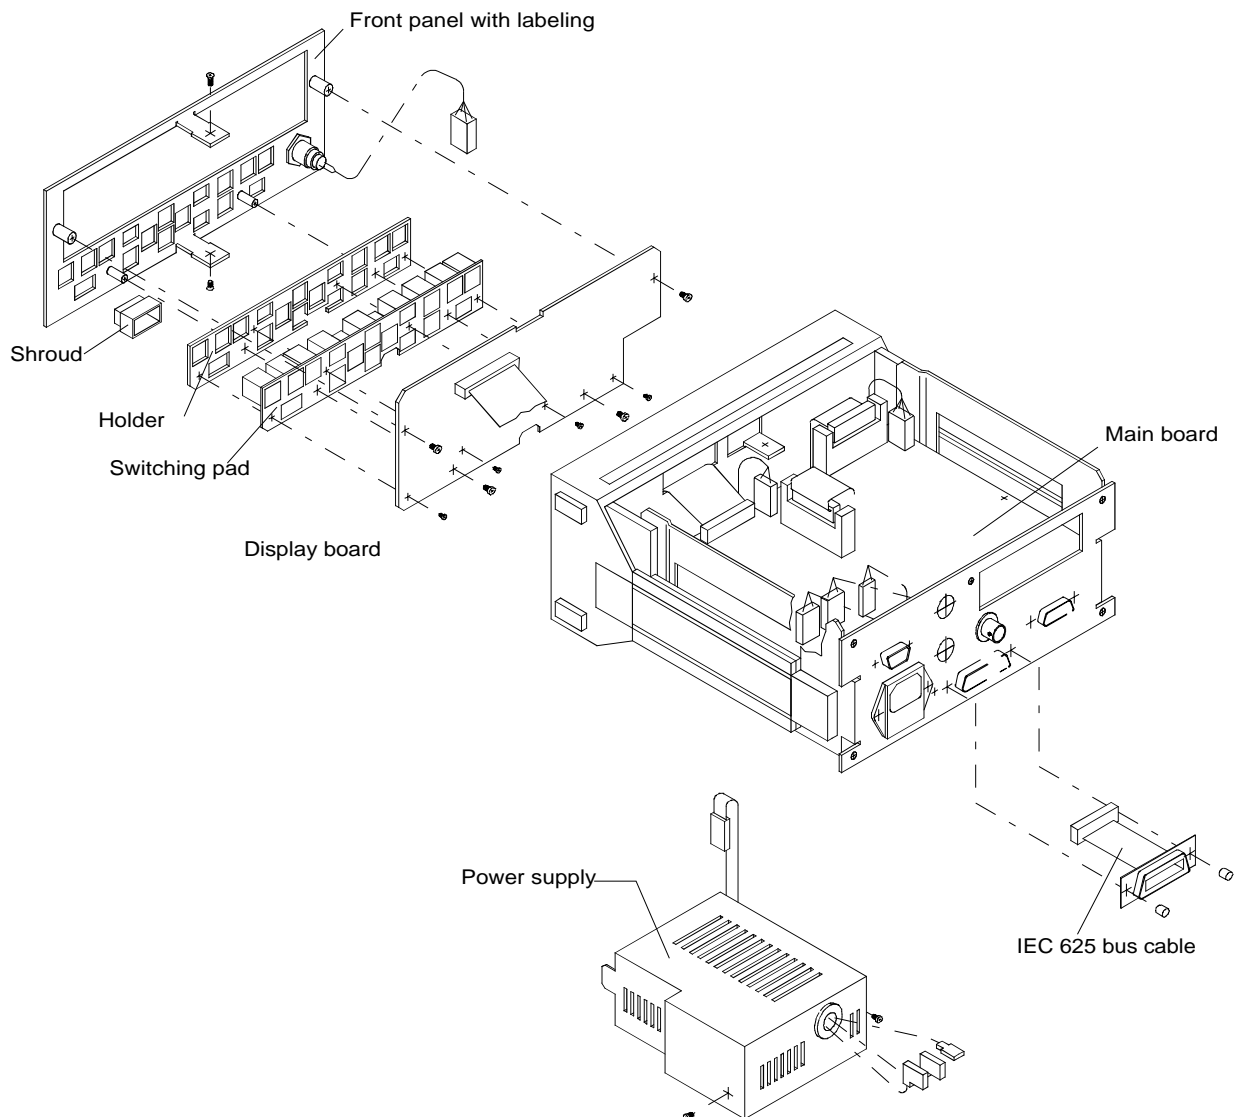

Fig. 4-6 Installation and removal of power supply, display board and Mainboard
- Undo the two Phillips screws on power supply case and remove module (Fig. 4-6).
- Remove the 4 Phillips screws on the front panel and the two Phillips screws in the middle of the top and bottom sections of the front frame (Fig. 4-6).
- Disconnect all cables from the mainboard (Fig. 4-6).